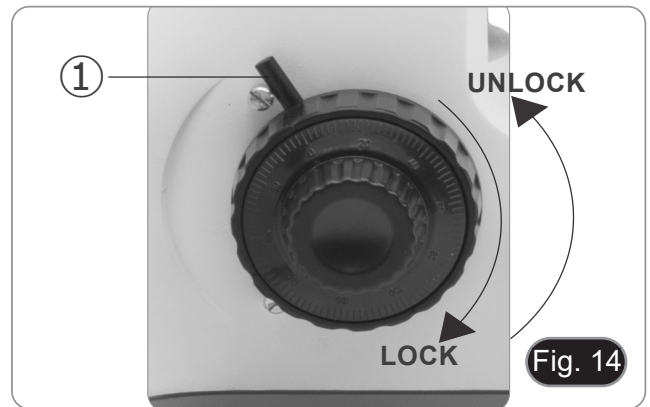

Fig. 13
To adjust the tension according to personal's needs, rotate the ring ④ using the provided tool (Fig. 13). Clockwise rotation increases the tension.